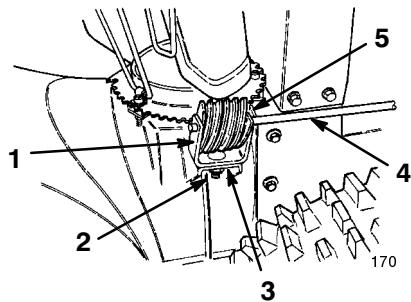

Figure 8
1. Insert the one-inch (2.5 cm) carriage bolt into the gear bracket mounting hole (Fig. 8).
2. Position the worm gear into the bracket, align the holes, and insert the chute gear rod through the bracket and the gear (Fig. 8).
3. Loosely mount the worm gear and the bracket to the mounting flange with a carriage bolt, a flat washer, and a locknut (Fig. 8).
4. Slide the worm gear into the teeth of the chute gear and tighten the locknut (Fig. 8).